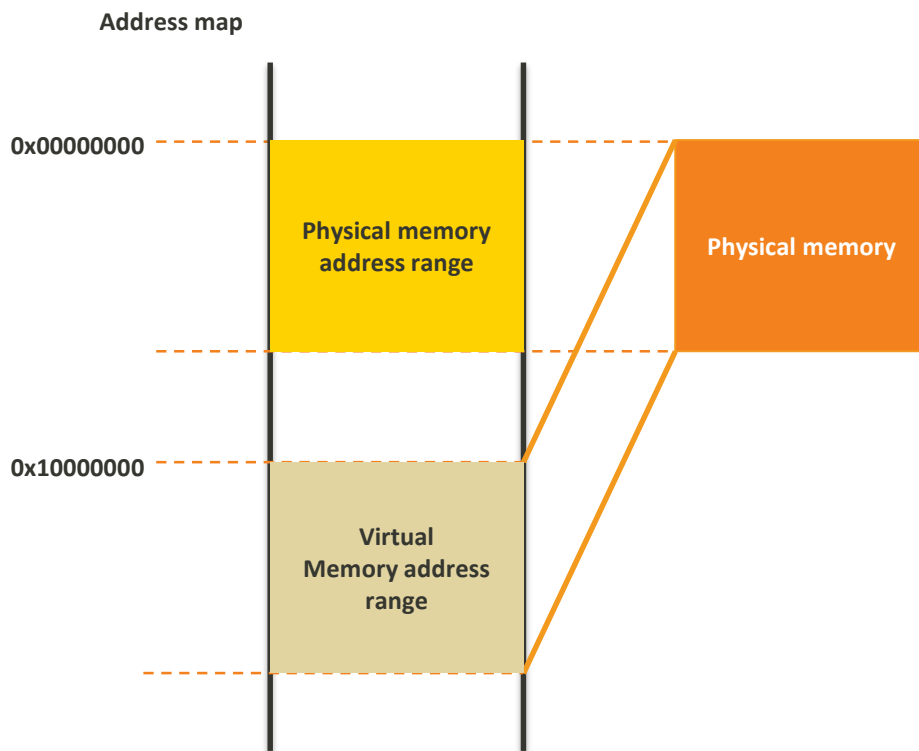

Figure 5. MT2523x virtual memory mapping
The virtual memory on the MT2523x is provided for cacheable memory and is implemented based on the memory mapping mechanism of ARM Cortex-M4. The virtual address range from 0x10000000 to 0x14000000 is mapped to the PSRAM address range from 0x00000000 to 0x04000000, as shown in Figure 5. The virtual memory region (0x10000000 ~ 0x14000000) is used as cacheable memory. All read-write (RW) data is stored in this region by default.